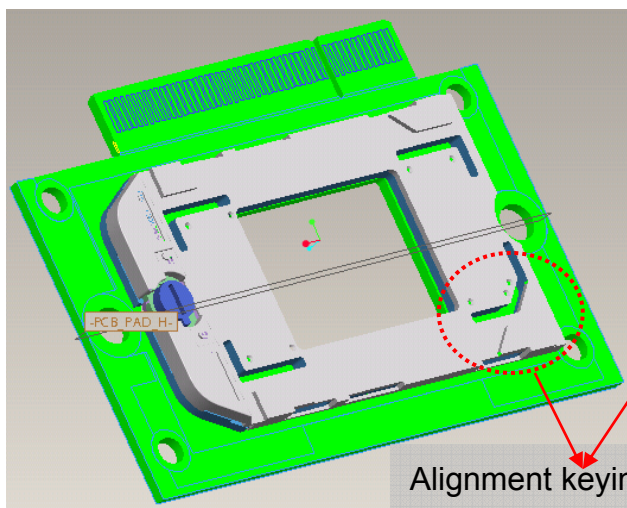

Fig. 8-1
8.1. Judge Chip B/D and DMD alignment keying first (Fig. 8-1, 8-2)